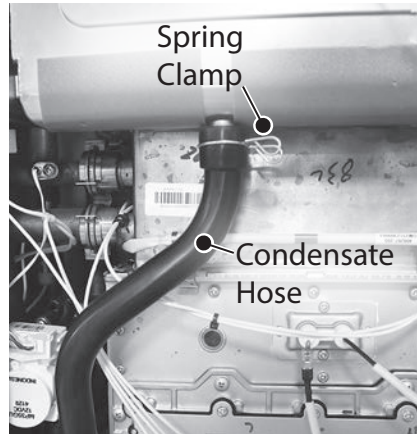

Figure 149 - Removing black condensate hose
- 41 Disconnect the black condensate hose from the top of the condensate trap and the secondary HEX. Compress the spring clamp and pull it down along with the black hose. Place it aside in a safe place for reinstallation. See Figure 149.